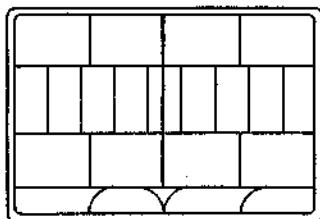
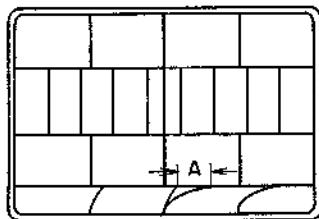
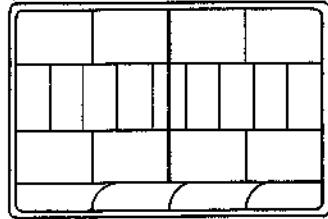

Fig. 4-6
Fig. 4-7
Fig. 4-8
If vertical lines at switching points are as shown in Fig. 4-6 and 4-7 when playing back a reference tape, the 180° angle adjustment of the video head is incorrect and readjustment is necessary. Adjust as follows:
- 3) If the video head angle is modified, playback the reference tape and ascertain that only one vertical line appears at a switching point as shown in Fig. 4-8. If the line is still as shown in Fig. 4-6 or Fig. 4-7, readjust the angle. If portion A in Fig. 4-7 is 1.5 cm on a 1.9 inch monitor TV, no readjustment is required.
4) When the vertical line at a switching point is composed of a single line as in Fig. 4-8 or portion A in Fig. 4-7 is within 1.5 cm, the 180° angle adjustment is displaced incorrectly by 1H if the upper part of the picture sways or the BLK line is 1H too much or too little at the beginning or end of the V BLK on the monitor TV. If this is the case, readjust until the phenomenon is eliminated. After adjustment, tighten the screws to 1.5 kg using a torque screwdriver.
NOTE: On the AKAI cassette VTR reference tape, one frame each is recorded for the right half and the left half of the picture. Therefore, if the 180° angle adjustment is incorrect (Fig. 4-6 and 4-7), there are two vertical lines in the center of the picture but one line each on the right and left.